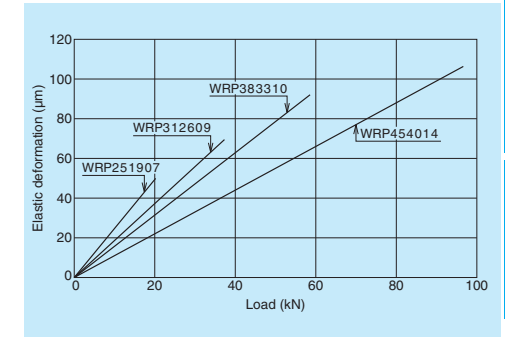

Fig. 4 Elastic deformation of the roller pack
**Fig. 4** shows the relationship between load and deformation. This includes deformation caused by contact between: the rollers and main body; the rollers and guide way surface; the main body and fitting plate.